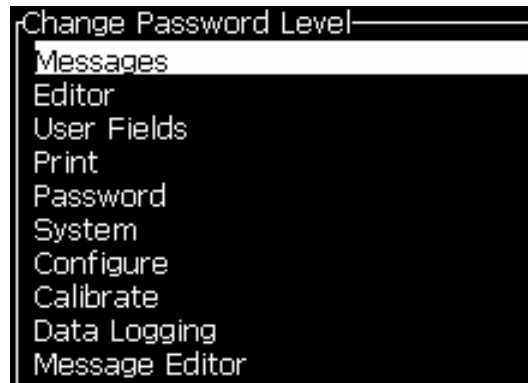
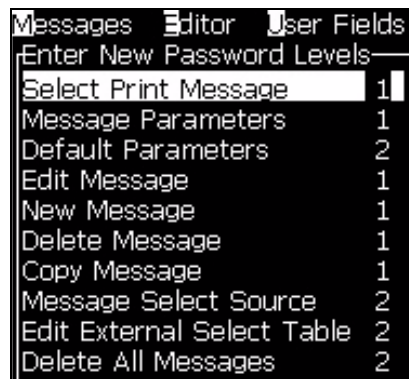

Figure 4-9: Change Password Level
Figure 4-10: Enter New Password Levels
- 1 Press *Alt + w* and select *Set Password Levels* (see Figure 4-8) to open the *Change Password Levels* screen (see Figure 4-9).
- 2 Select the menu (see Figure 4-9) that needs a change in the password level access and press the *Enter* key. The *Enter New Password Level* screen appears (see Figure 4-10 on page 4-6).